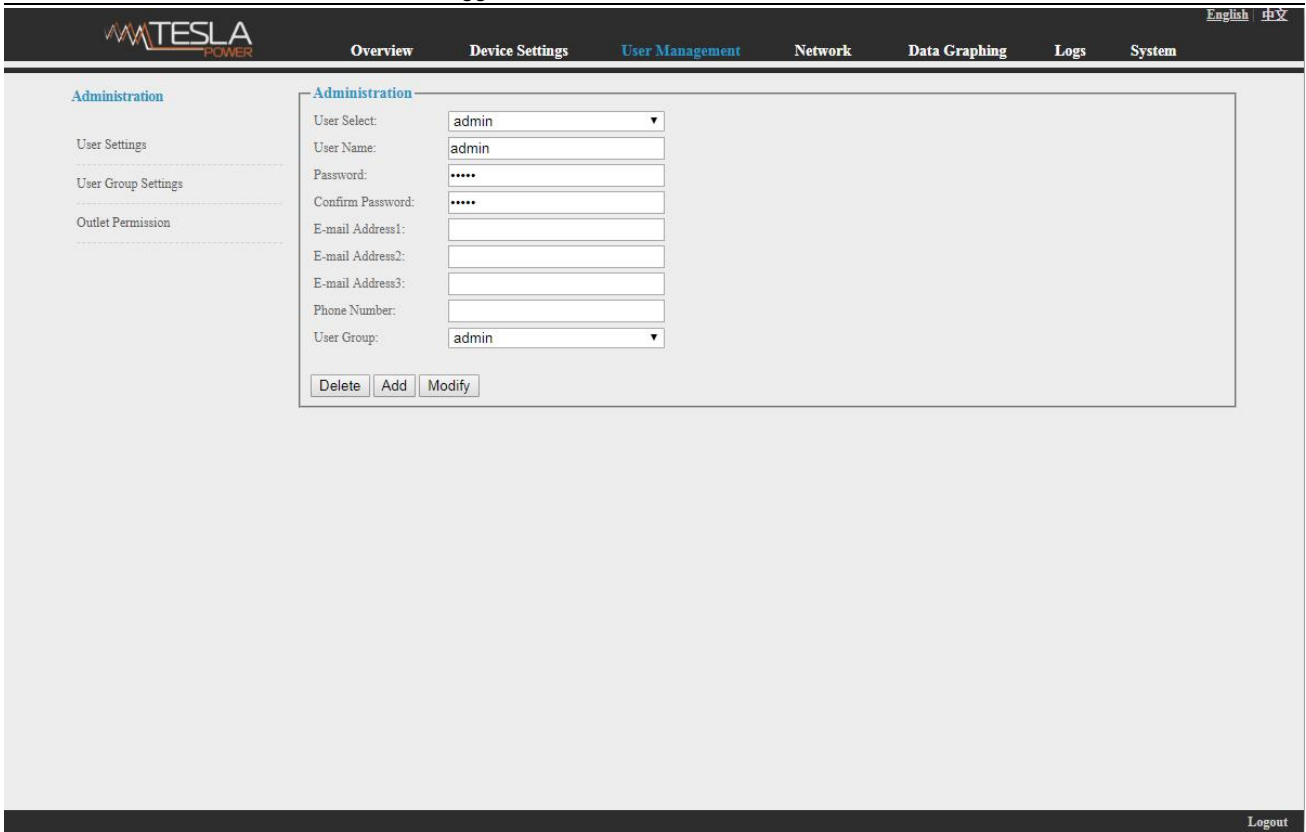

Figure 1-4
3.2.1.3. User Management: Click the User Management form the navigation bar as Figure 1-4 to manage the user, user group and user access rights
A. User Settings: Click the User settings from the User Management menu as figure 1-4